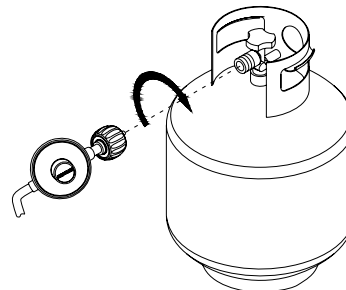

Figure 22
5. When connecting regulator and hose assembly to tank valve hand tighten quick coupling nut clockwise to a full stop. (Fig.22) Do not use a wrench to tighten because it could damage the quick coupling nut and result in a hazardous condition.